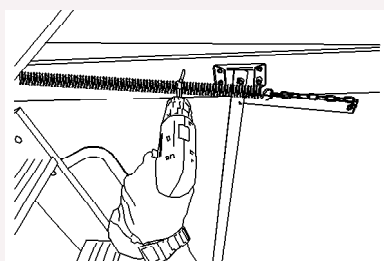

fig 15
7. With the stairs open screw through the holes you previously drilled in the side frame into the ceiling frame (figure 15). Do not fit tight yet.